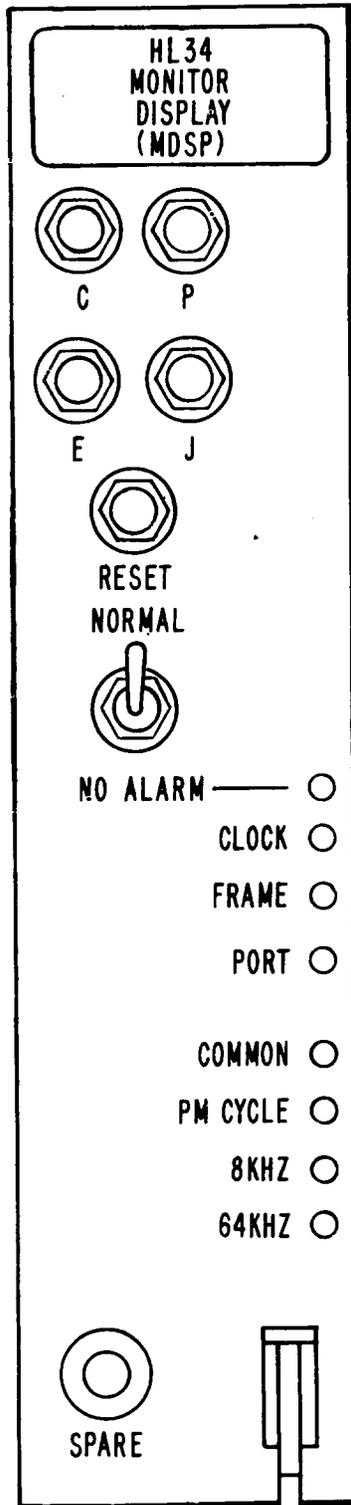

Fig. 1—T1DM-PM Display Circuit Pack, HL34
2.01 Check the T1DM alphanumeric displays, the T1DM-PM display circuit pack, HL34 (Fig. 1), and the bay alarm display on the bay clock, power, and alarms (BCPA) shelf or the local timing supply (LTS) and T1DM assembly.